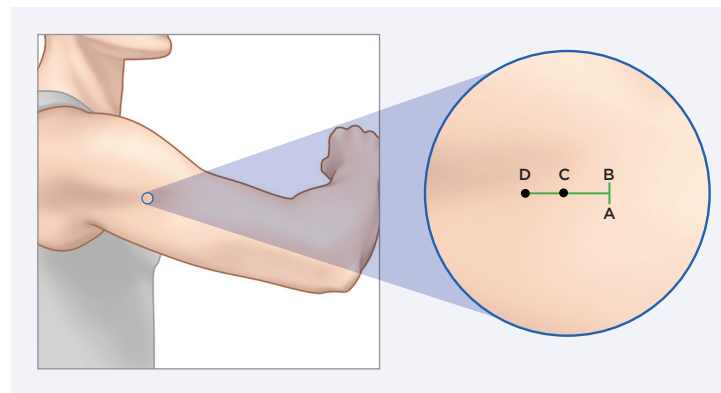

Figure 1
Local anesthesia (approximately 2 mL of Lidocaine) should be injected approximately 5 mm along the planned incision (along AB) and approximately 30 mm perpendicular to the planned incision (along CD) which is the planned track of the blunt dissector tool. (Figure 1).
Start incision at point B (Figure 1) and go towards point A, until the incision is approximately 5 mm.
2. Remove the blunt dissector from the tray and introduce the blunt dissector at approximately a 45 degree entry angle at the midpoint between A and B (Figures 1 & 2) so that the tip and tapered portion of the blunt dissector are under the skin, and until the depth guards are touching the skin.